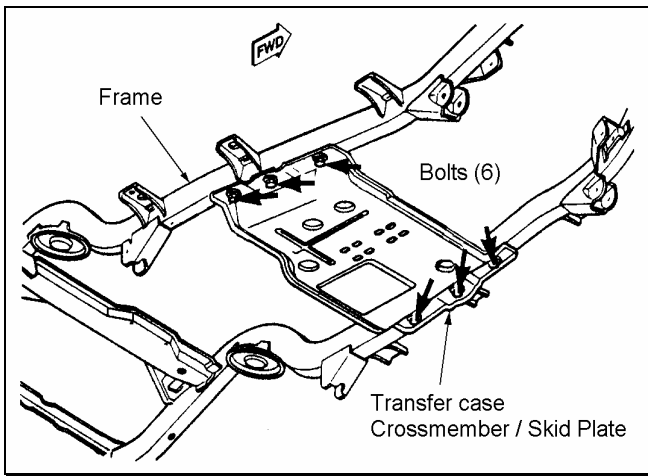

Figure 16
- 1) ☐ Place the transmission in neutral. Support the transfer case crossmember/skid plate with a hydraulic jack. Loosen the 6 bolts holding the crossmember to the frame. See figure 16. Do not use an impact gun.